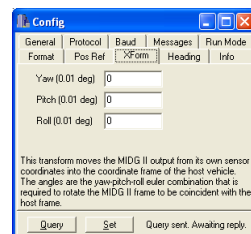

Figure 2. XForm tab
5. **Select the "XForm" tab (Figure 2).** All entries for Yaw, Pitch, and Roll axes should be zero (0).